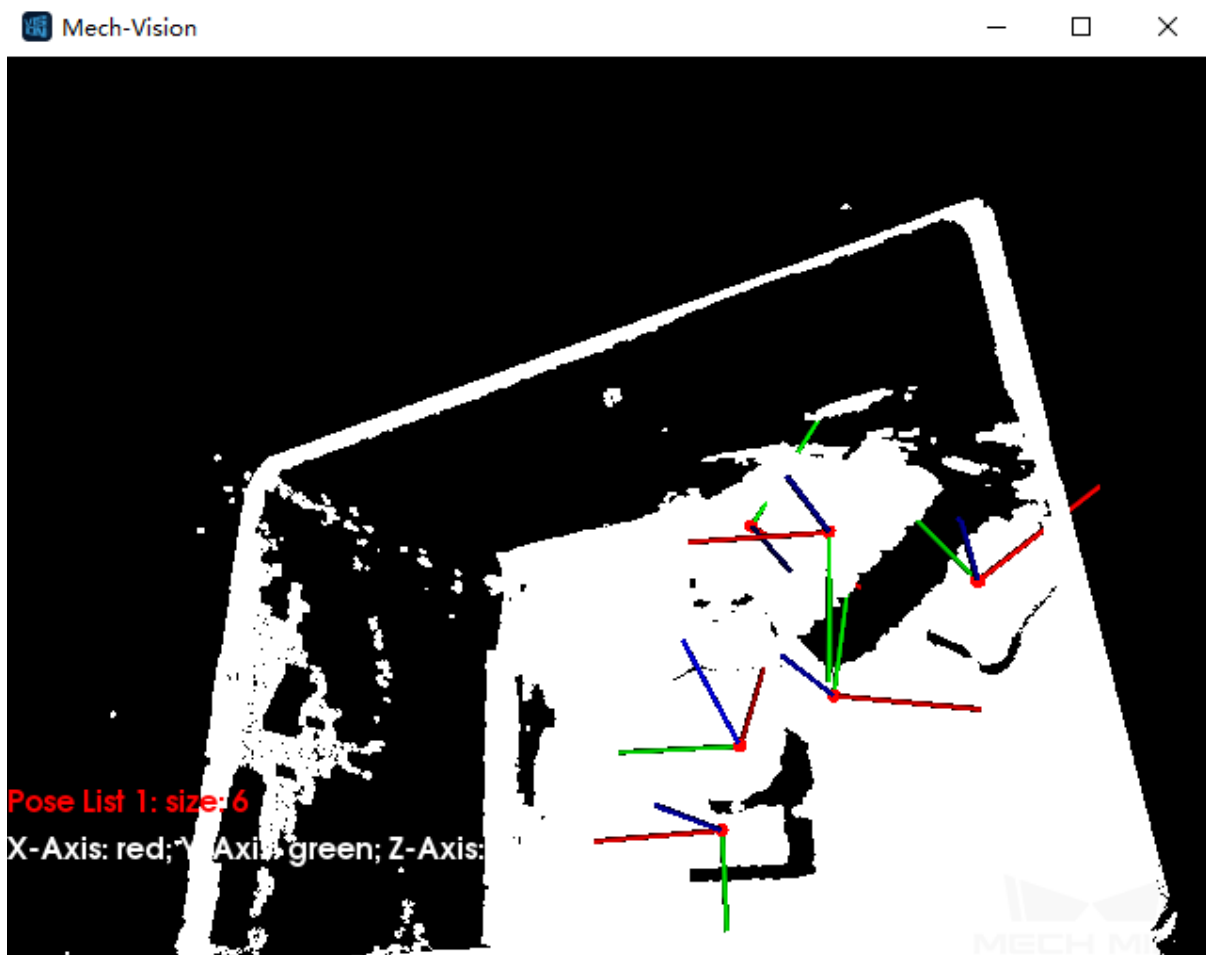

Figure 5. A sample result of Grasp Pose Estimation
- The pose of an object's pickable surface under the camera coordinate system (as shown in *Figure 5*).